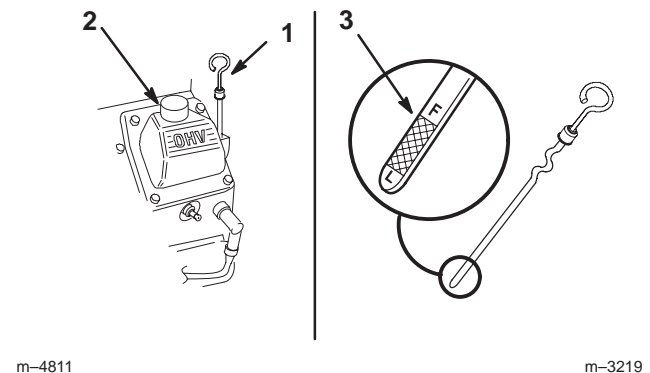

Figure 39
3. Clean around the oil dipstick (Fig. 39) so dirt cannot fall into the filler hole and damage the engine.
4. Pull the oil dipstick and wipe the metal end clean (Fig. 39).
5. Slide the oil dipstick fully into the filler tube. Pull the dipstick out and look at the metal end (Fig. 39). If oil level is low, slowly pour only enough oil into the filler tube to raise the level to the full mark.
5. Slowly pour approximately 80% of the specified oil into the filler cap (Fig. 39). Refer to Servicing the Engine Oil, page 34.